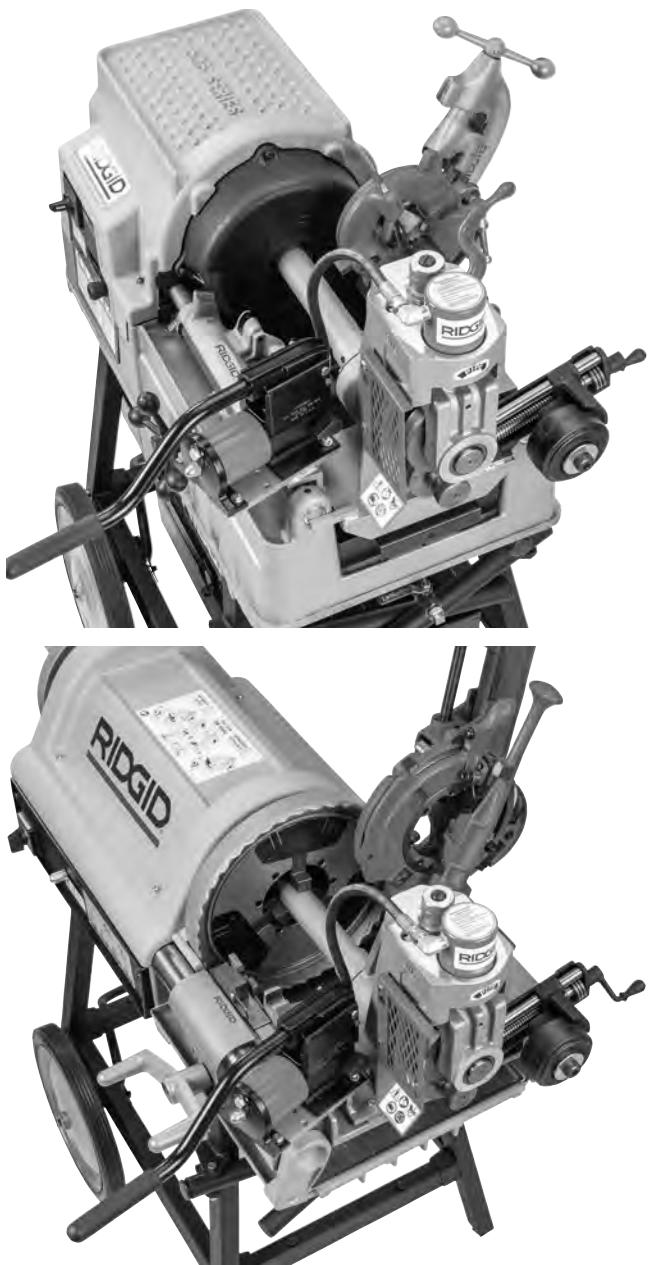

Figure 10 – 918 installed on 535A and 1224
5. With the 918 positioned at the end of the threading machine securely tighten the machine front chuck on the drive bar. See *Figure 10*.